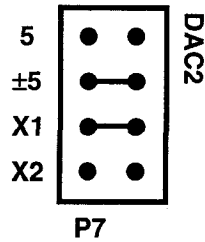

Fig. 1-8 — DAC 2 Output Voltage Range Jumper, P7
This header connector, shown in Figure 1-8, sets the output voltage range for DAC 2 at 0 to +5, ± 5 , 0 to +10, or ± 10 volts. Two jumpers must be installed, one to select the range and one to select the multiplier. The top two jumpers select the range, bipolar (± 5) or unipolar (5). The bottom two jumpers select the multiplier, X2 or X1. When a jumper is on the X2 multiplier pins, the range values become ± 10 and 10. The table below shows the four possible combinations of jumper settings, and the diagram shows the two bipolar settings. This header does not have to be set the same as P6.